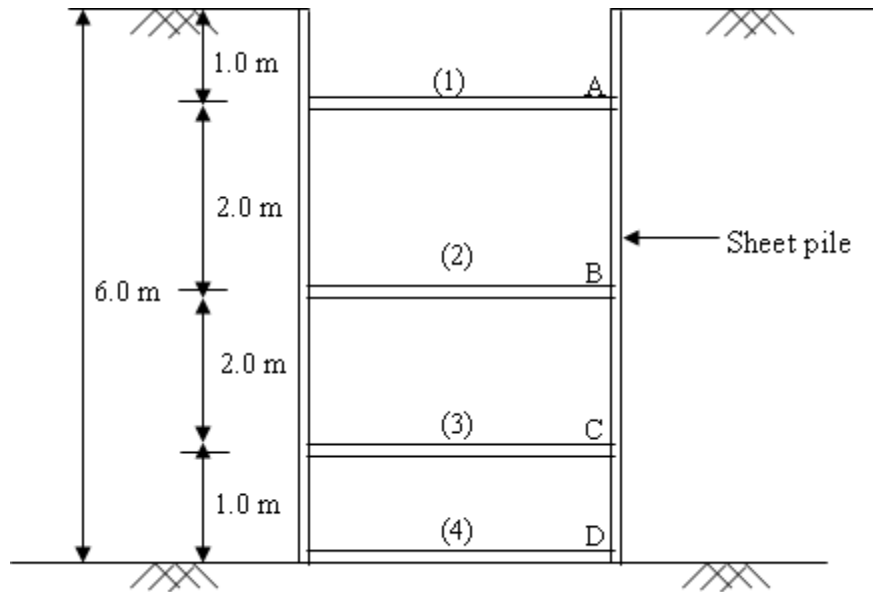

Fig.8
35. Determine the forces in the struts for the bracing system as shown on Fig. 8. Take $\gamma = 19 \text{ kN/m}^3$, $c = 32 \text{ kN/m}^2$, $\phi = 0$ and spacing in the perpendicular direction is 2.0 m. Assume that the struts are connected at A, B, C and D levels. [Answer: $F_A = 89.8 \text{ kN}$, $F_B = 132.1 \text{ kN}$, $F_C = 78.3 \text{ kN}$, $F_D = 7.6 \text{ kN}$]